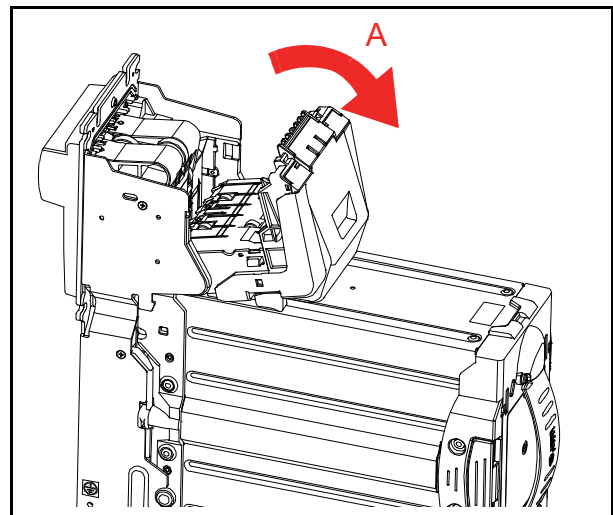

Figure 21 JAM Clear 2
2. Rotate the entire Upper Tray in the direction indicated by the red arrow A (Figure 21).